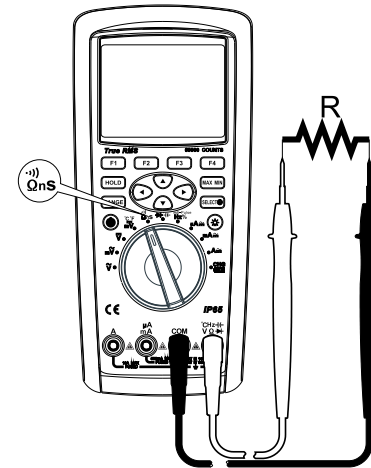

Figure 8
- 2) Set the rotary switch to the measurement  $\Omega$  (resistance) and current  $\Omega$  is the default resistance measurement as shown in Figure 8. Connect the test leads to both ends of the measured resistance.
- 2) Set the rotary switch to the measurement  $60nS$  . press the key SELECT to select conductance measurement 60nS. Connect the test leads to both ends of the measured resistance as shown in Figure 8.
- 2) Set the rotary switch to the measurement  $\Omega$  with a diode symbol, press the key SELECT to select the continuity test  $\Omega$  with a diode symbol. Connect the test leads to both ends of the measured resistance as shown in Figure 8. Press the function key MENU (Menu) to enter the menu items. If pressing the key SHORT (Menu), then the buzzer selects